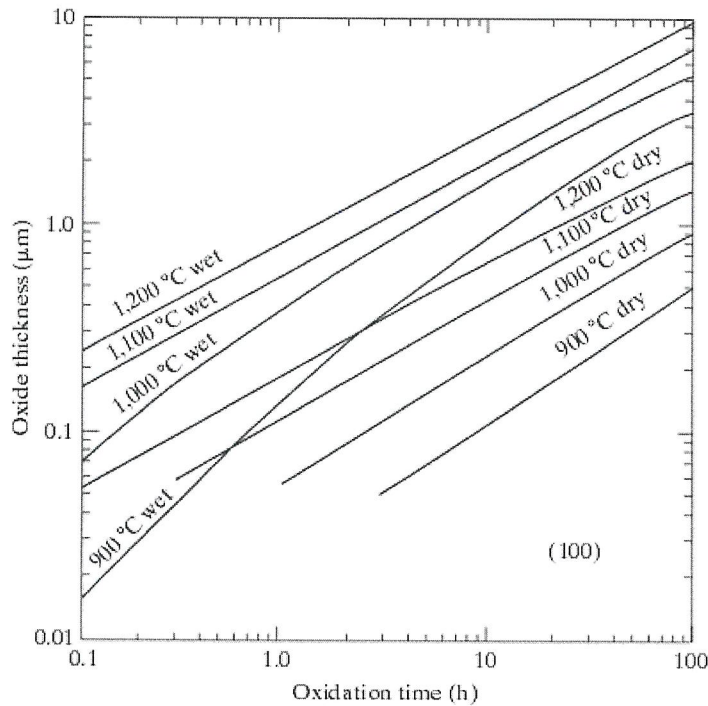
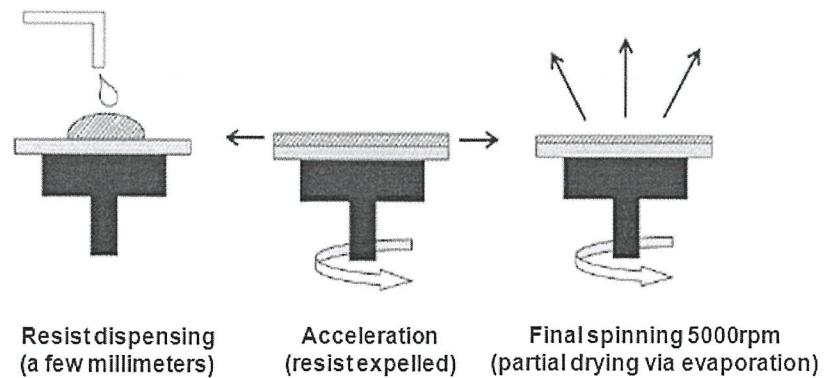

Figure Q2(b)
Figure Q3(a)
- Q1** (a) (i) List **SIX (6)** basic process and functions involved in fabricating Intergrated circuit (IC) using planar technology. (6 marks)
- (b) (i) Based on **Figure Q2(b)**, calculate the final thickness of the silicon dioxide on a wafer that initially has  $0.2\mu\text{m}$  after an additional 3 hour of  $1000^\circ\text{C}$  dry oxidation. ( $A=0.165\mu\text{m}$  and  $B=0.0117\mu\text{m}^2/\text{h}$  at  $1000^\circ\text{C}$  dry oxidation)
- (ii) Based on Figure Q2(b), calculate the time it takes to grow an additional 0.2µm of oxide at 900 °C in a wet ambient so that the total oxide thickness is 0.4µm. (7 marks)
- (ii) List **TWO (2)** types of photoresist. (2 marks)
- (iv) Analyse **TWO (2)** elements that can contribute to the photoresist thickness during the coating process as shown in Figure Q3(a). (4 marks)